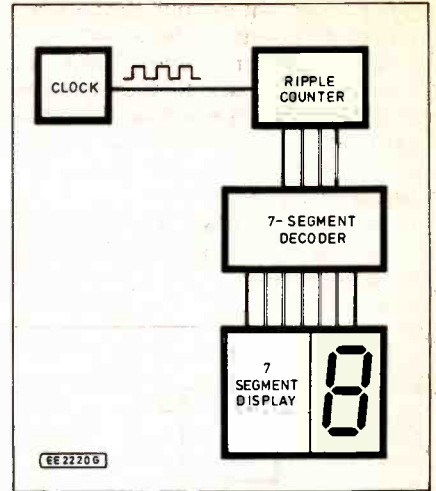

Fig. 12.24. A simple denary number generator
The basic principle behind the formulation of a simple denary number generator using a counter, BCD to seven segment decoder/driver, and a seven segment display is shown in Fig. 12.24.
5. Is the denary number generator of Fig. 12.24 a combinational or sequential circuit. Give reasons for your answer.